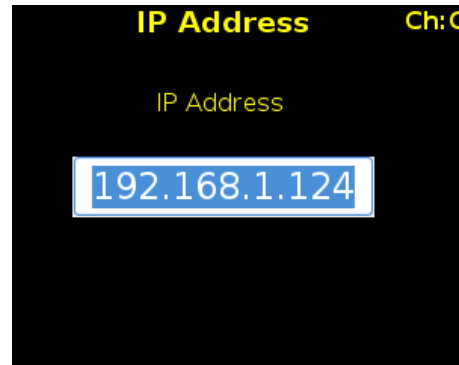

Figure 150: IP Address Entry
2. Type the IP address in the IP Address entry screen (Figure 150), then press the Enter key.